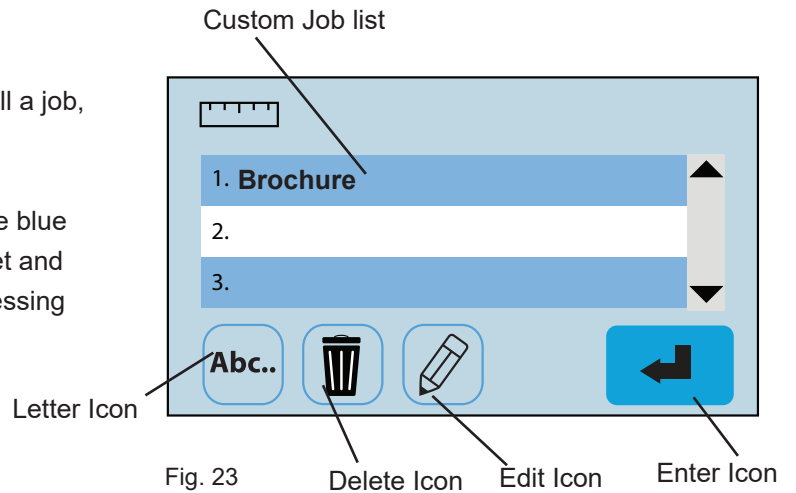
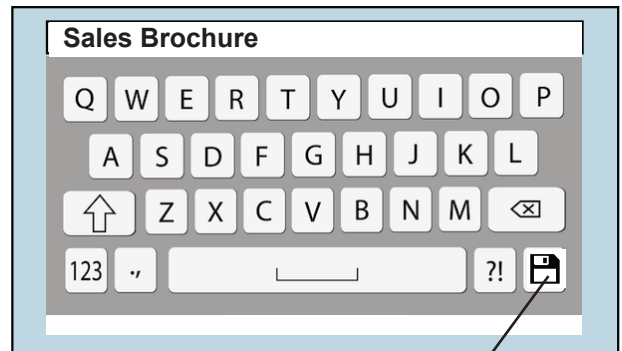
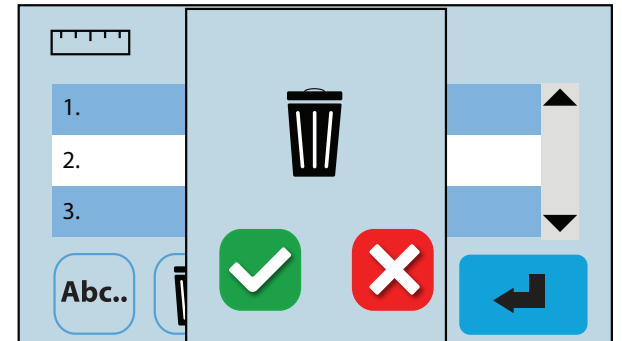
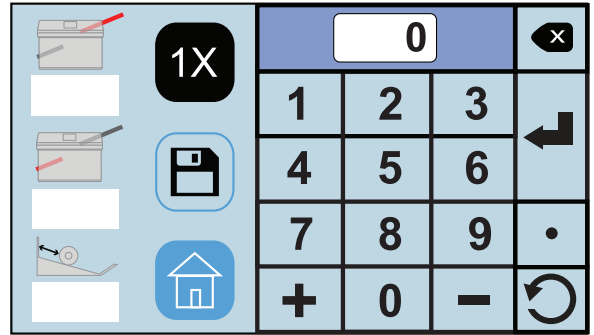

Fig. 23 Letter Icon Delete Icon Edit Icon Enter Icon
Fig. 24 Save icon
Fig. 25 Deletion confirmation screen
Fig. 26
To recall select the job from the list and press the blue enter button  (Fig. 23). The fold will be set and then will return to the home screen to start processing the job.
3. To rename a job, select the job from the list and press the letter icon  (Fig. 23). Use the keypad to change the name and press the save icon in the lower right corner (Fig. 24).
4. To delete a job, select the job from the list and press the delete icon  (Fig. 23). On the confirmation screen press the green box with the check to confirm the deletion or press the red box with the X to cancel the deletion (Fig. 25).
- To edit a previously saved job, select the job from the list and press the edit icon  (Fig. 23). From the fold setup screen use the same process as setting a custom fold to edit the job settings (Fig. 26). See page 11 for measuring guidelines.